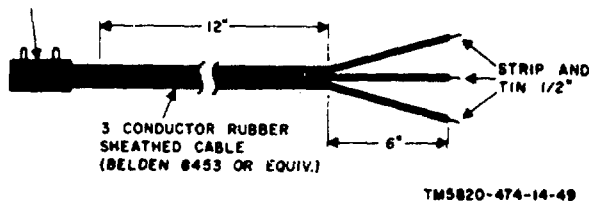

Figure 49. Test cable No. 4, construction details.
d. *Test Cable No. 4* (fig. 49). Test cable No. 4 is used to connect the TRANS PWR jack to the dummy load resistors when either power supply is tested. One cable is required.